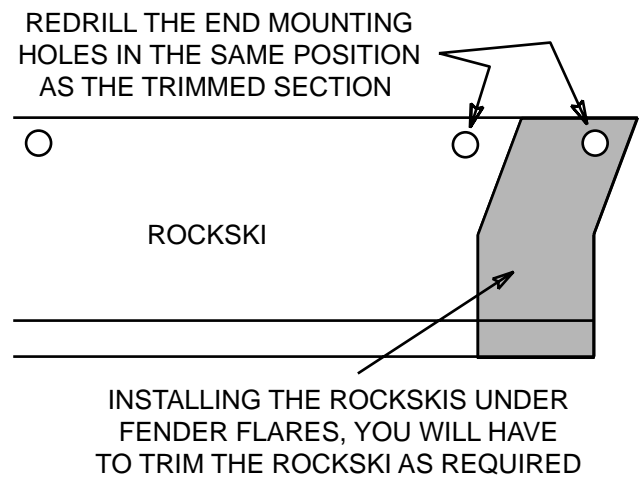

Figure 3
3. Remove the front and rear fender support brackets as shown in Figure 3. (No longer needed)
- d. Measure and use a punch to mark where the new bolt hole will be drilled, using the measurements of the original bolt hole, translated to be in relation to the new edge of the Rockski after excess material is removed (see Figure 3), and drill new hole with 5/16" bit.
5. Attach the Rockski using a 1/4-20 X 3/4" truss head machine screw with washer in both slots thru the holes left from the removal of the fender supports (see Figure 3). Secure the screws with washer and nut. Remove jack support.